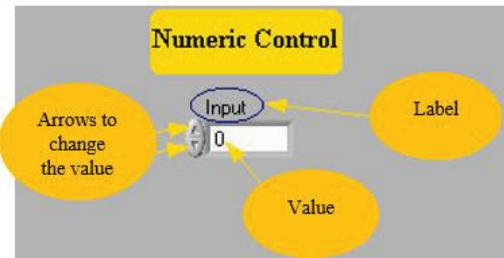

Figure 2.22: Numeric Control (Input)
**Numeric Control** contains several properties such as **title**, **value**, and **arrows** to change that value, as shown in figure 2.22.